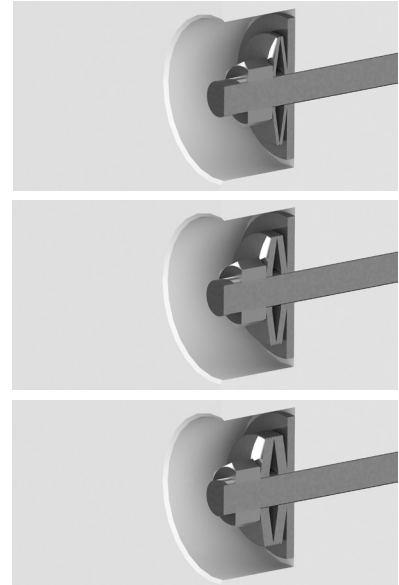

Figure 6
Put the washers on the assembly pins (6). Position the washers as shown on the example drawing (figure 6).